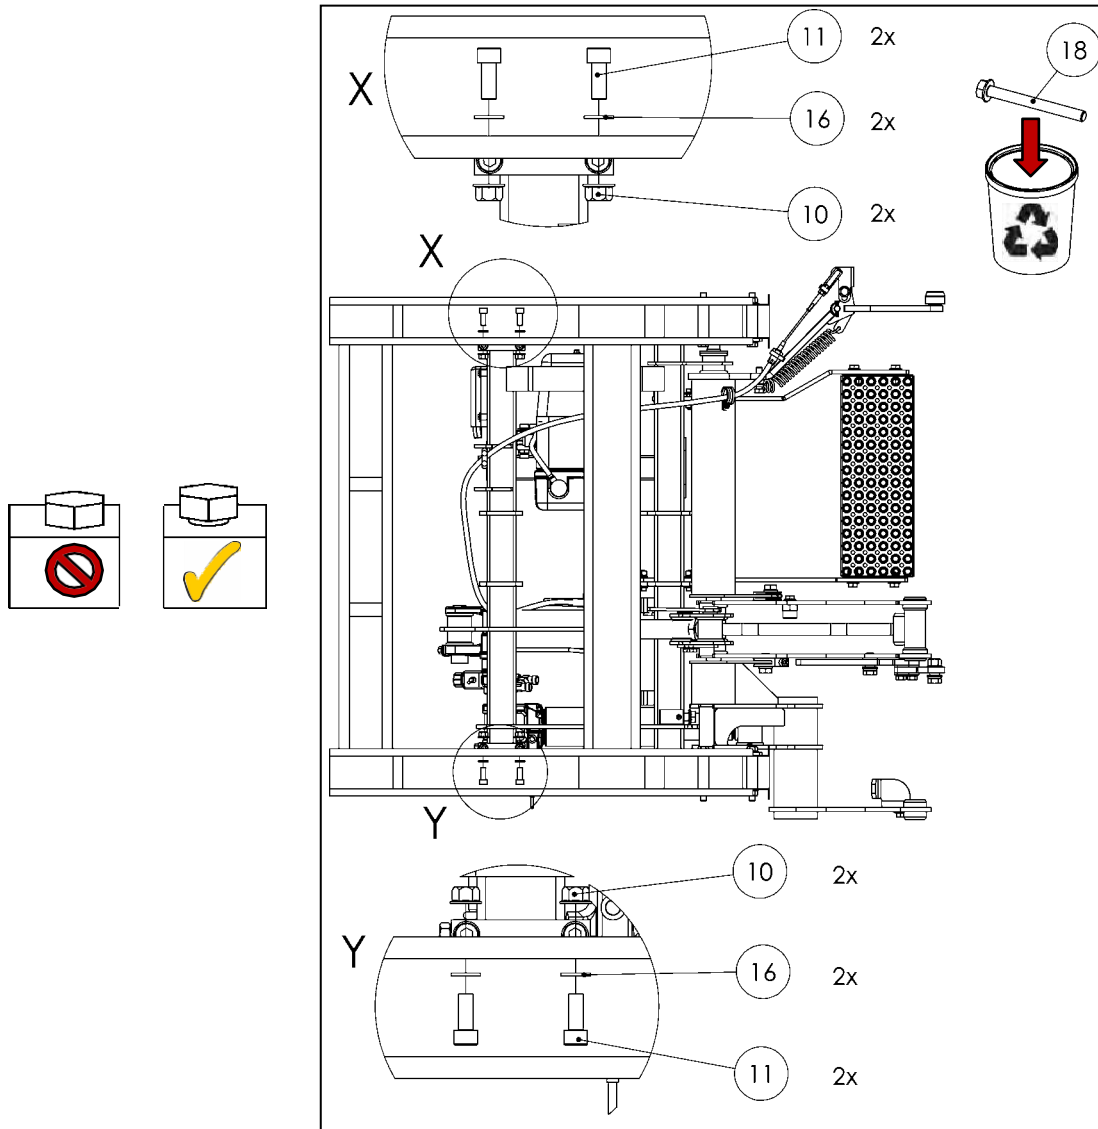

Figure 31
- Insert the front bolts (**installation adapter kit – Part No. 22 911 216**) as viewed in the forward direction of travel and tighten until hand-tight as shown in Fig. 31.